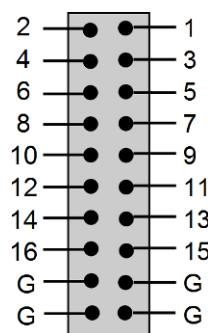

Figure 2-5:
Monitor (10): Connection to the monitor allows users to observe the operation of the CereStim R96 Current Modules using an oscilloscope or other monitoring device. The pinout for this connector is shown in Figure 2-5 to the right. Numbers 1-16 refer to the monitor line of the corresponding current module (i.e. number 1 corresponds to module 1).